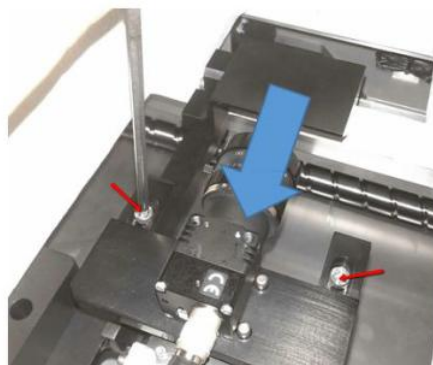

Figure 3 Mirror Bracket Retract
4. Loosen 2x (M5 X30) screws and gently pull the mirror bracket towards front door direction. May refer to below Figure 3.